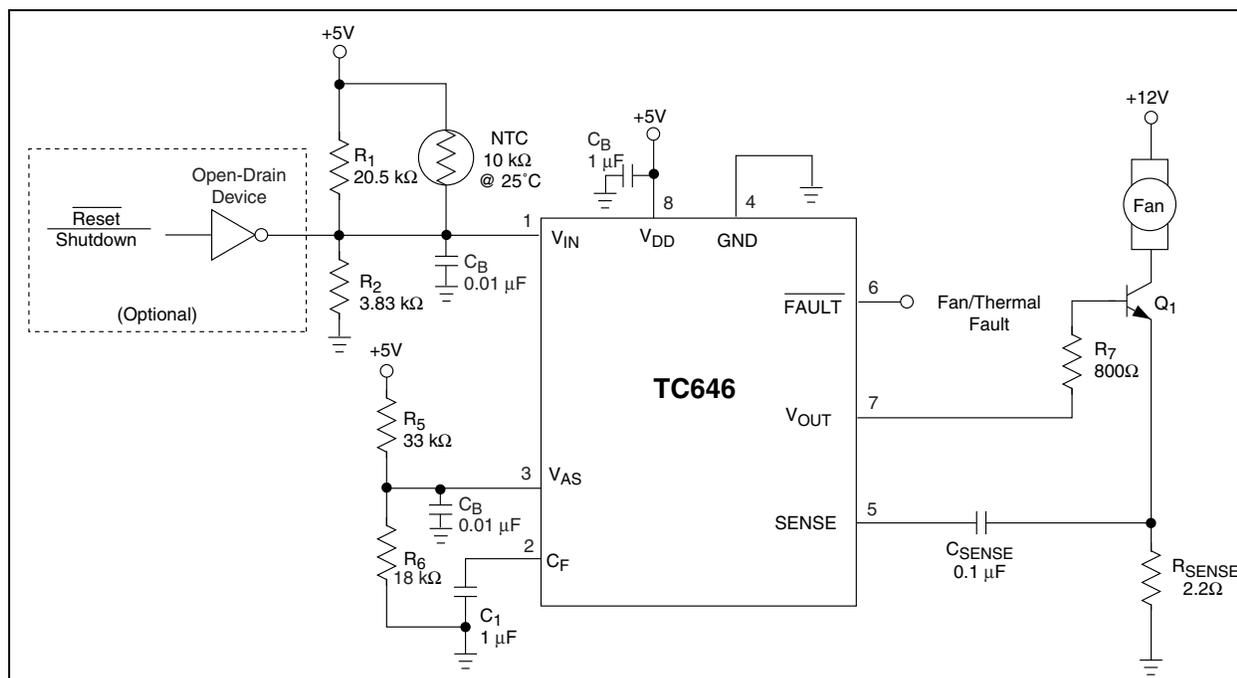

FIGURE 5-9: Design Example.
Step 1. Calculate R_1 and R_2 based on using an NTC having a resistance of $10\text{ k}\Omega$ at T_{MIN} (25°C) and $4.65\text{ k}\Omega$ at T_{MAX} (45°C) (See Figure 5-9).